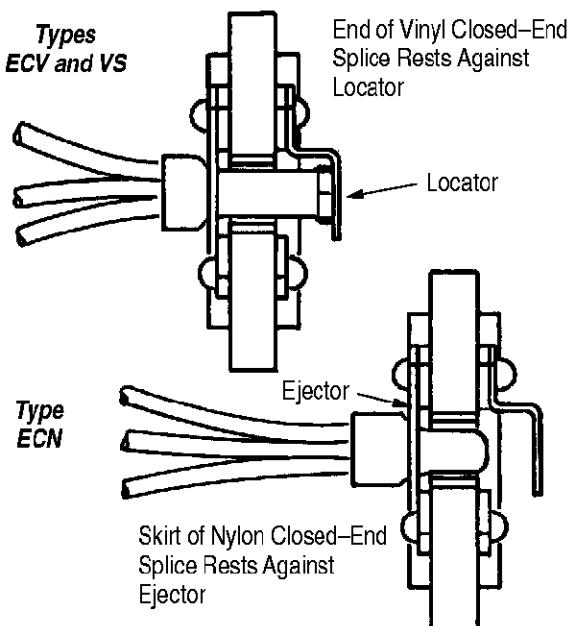

Figure 3
3. Locate the splice—with the wires inserted—into the crimping dies, as shown in Figure 3. The skirt of ECN (Nylon) splice should rest against the splice ejector. The ends of the ECV or VS (Vinyl) splices should rest against the locator. Refer to Figure 3.